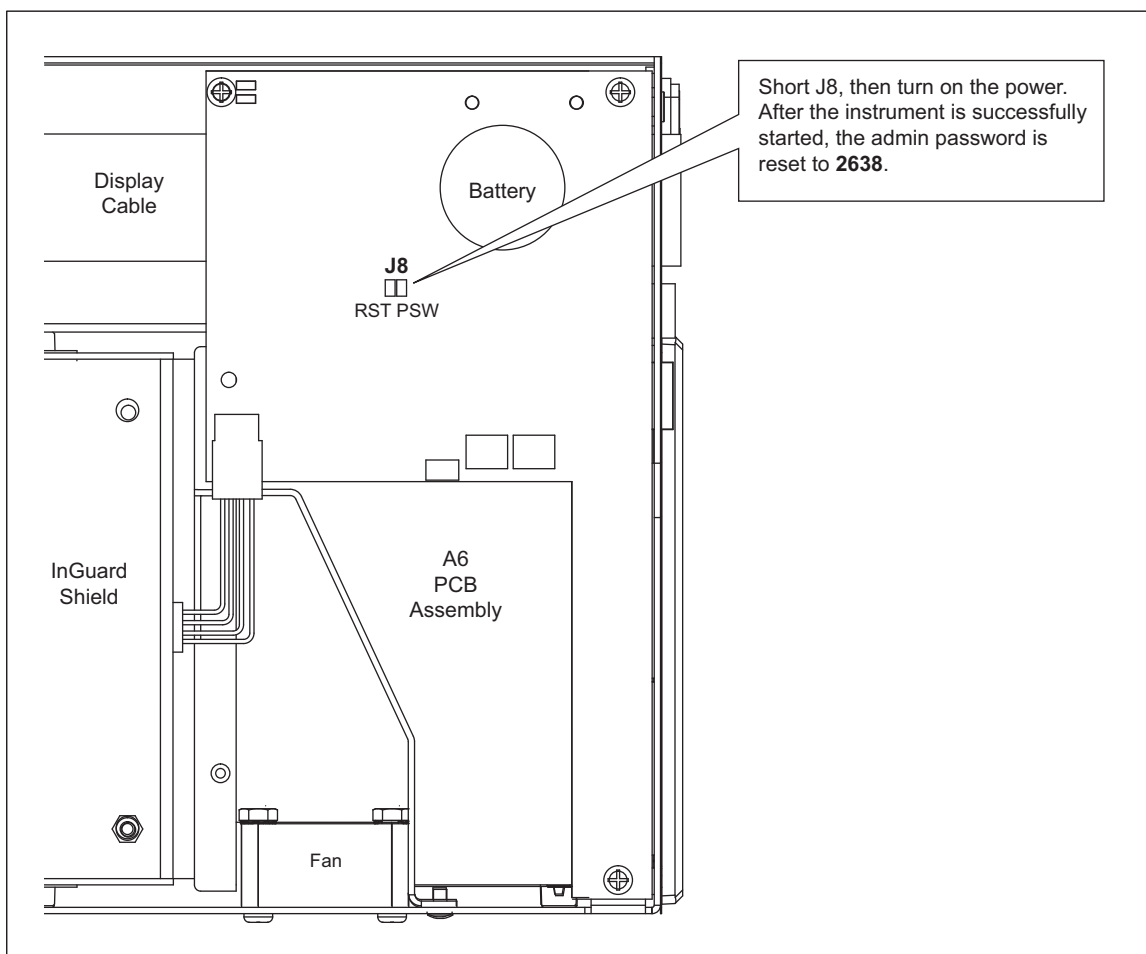

Figure 9. Password Reset Jumper
2. Connect a jumper across J8, as shown in Figure 9.